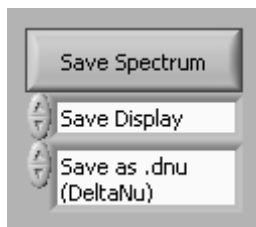

Fig. 28 (Save spectrum menu)
The *Save Spectrum* button allows the user to save spectra to specific library folders. The spectrum can be saved as displayed on the screen (Save Display) or as raw data (Save Raw Data) by using the arrow keys next to the top box (**Fig. 28**). Next, you can choose what type of file to save it as using the arrow keys on the second box. Files can be saved as .dnu, .spc, or .prn extensions. Once you have chosen the file type click on the *Save Spectrum* button, choose a library or folder in which to save the spectra file, and give the file a name. *Note: To save a library file it must be saved with the “Save Display” function.*
- 3) Select “Save Display” using the arrow keys under the *Save Spectrum* button (**Fig. 28**). Save the averaged spectra in a folder or as a single library entry.
A multi-file is a single file that contains more than one spectrum. A multi-file is not commonly used for anything other than repeatability tests. It is NOT used for a library entry. It can only be saved using the “Save Raw Data” selection (**Fig. 28**). Another reason to save a multi-file is to load the spectrum back into the NuSpec software and manipulate resolution, etc. If the file is saved at low resolution the “smoothing” effect is applied permanently and cannot be undone. The integration time cannot be set higher than 10 seconds. The lowest setting is 0.01 seconds.